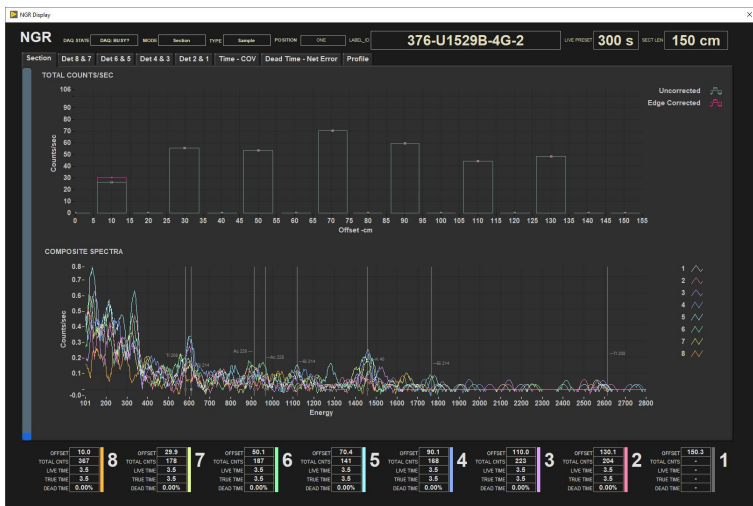

Figure 31. Core Analyzer Screen Showing Histogram.
9. As the sensors take measurements, counts are plotted vs. sensor number on the mainscreen. Hit the Detail/Summary button at the upper right of the screen to switch between the histogram vs. binned mode displays. The button name changes from Summary to Detail, depending on which view is selected (Fig. 31 and 32).